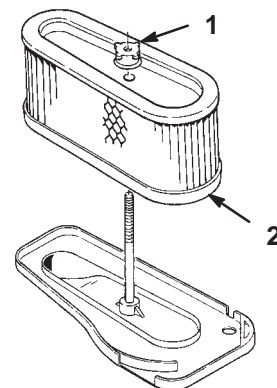

Figure 28
4. Unscrew the rubber nut and remove the paper element (Fig. 28).
- Slide the air cleaner assembly onto the long rod. Now screw the rubber nut finger-tight against the air cleaner (Fig. 28).